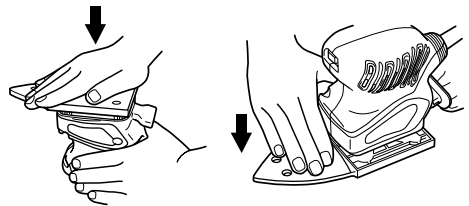

Fig. 2
- (2) Strongly push the sanding paper with the palm of your hand to fasten it securely in place (Fig. 2).